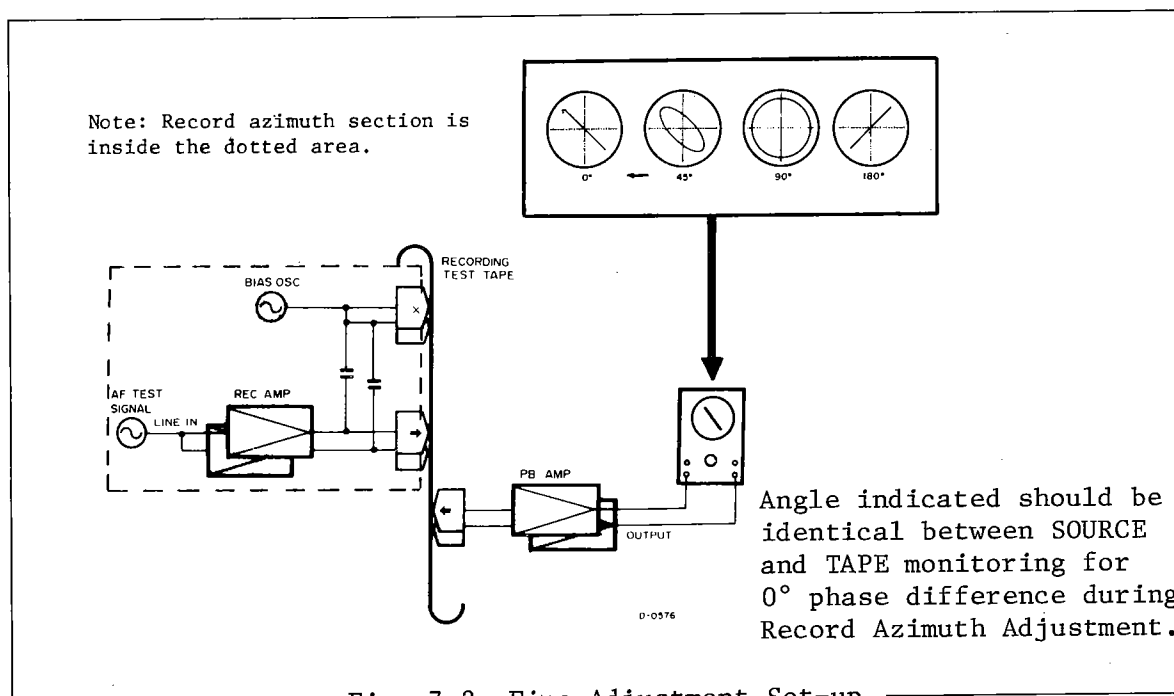

Fig. 7-2 Fine Adjustment Set-up
6. Connect the test equipment as shown in Fig. 7-2.